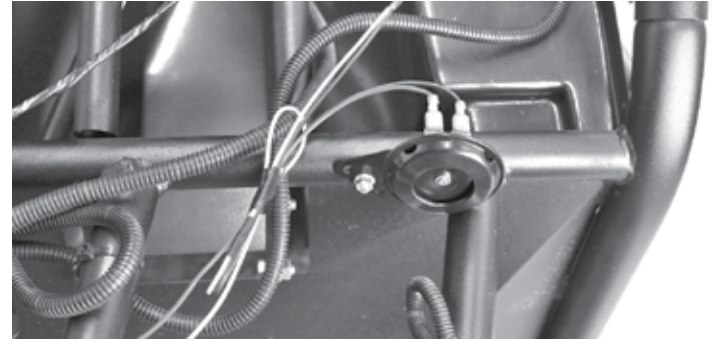

Fig. 8
- 6** Mount the horn to the frame beneath the hood of the vehicle with the 1/4 #20 bolt, washer and nylock nut provided in the recommended pre-drilled location as shown in figures 8 & 10. It may be necessary to drill a hole in the frame tubing to place the horn in another desired position. **NOTE: make sure the Red horn wire from the harness will reach where the horn will be placed.** Take the Red and White wires marked "Horn" from the harness and cut to the appropriate length being careful not to cut them too short. Strip the ends of the wires and install female spade terminals onto the ends.